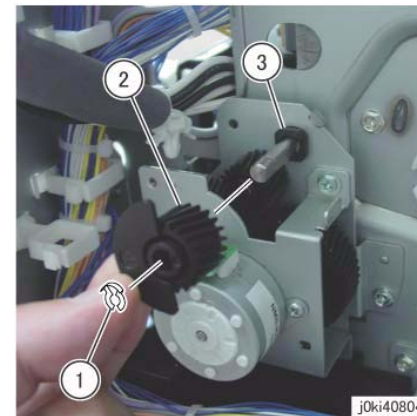

Figure 3 Remove the Gear and bearing
7. Remove the gear and the bearing. (Figure 3)